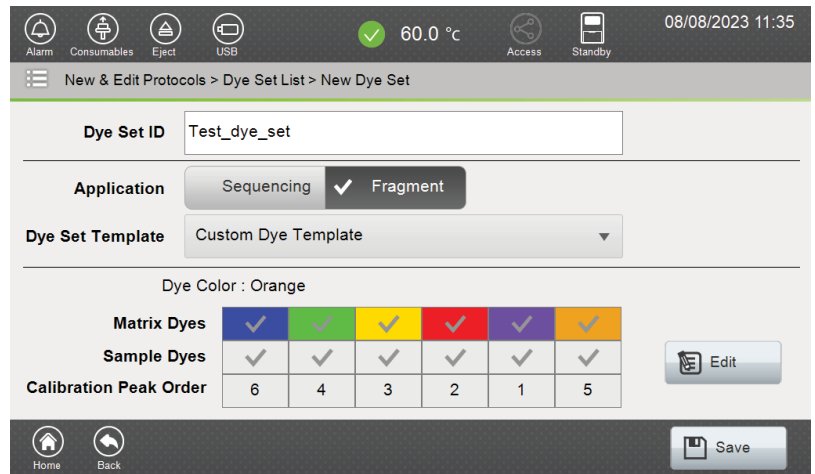

Figure 149. Saving the custom dye set in the 'New Dye Set' screen.
- Confirm that the New Dye Set screen reflects the essential information for the custom dye set (Figure 149). Select **Save**.